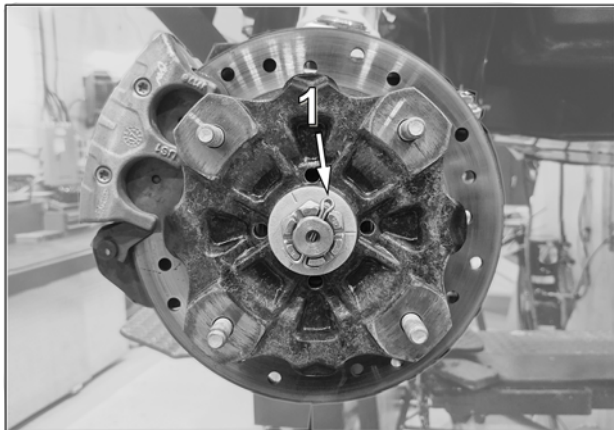

Fig. 8
- Make sure that the cotter pin locking the wheel hub's castle nut (1) will not interfere with the Track System hub during installation. There must not be any resistance when the Track System is installed on the vehicle's wheel hub. See Fig. 8